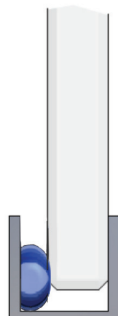
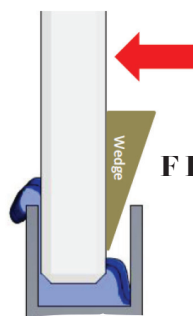

FIG 14.
FIG 15.
- Slide glass panel into position (FIG 14) and use small wedges (FIG 15) or a flat plastering blade to slide glass panel back to inside edge of channel and against silicone.